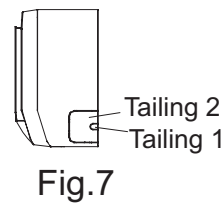

Fig.7
1. When routing the piping and wiring from the left or right side of indoor unit, cut off the tailings from the chassis when necessary (As shown in Fig.7)